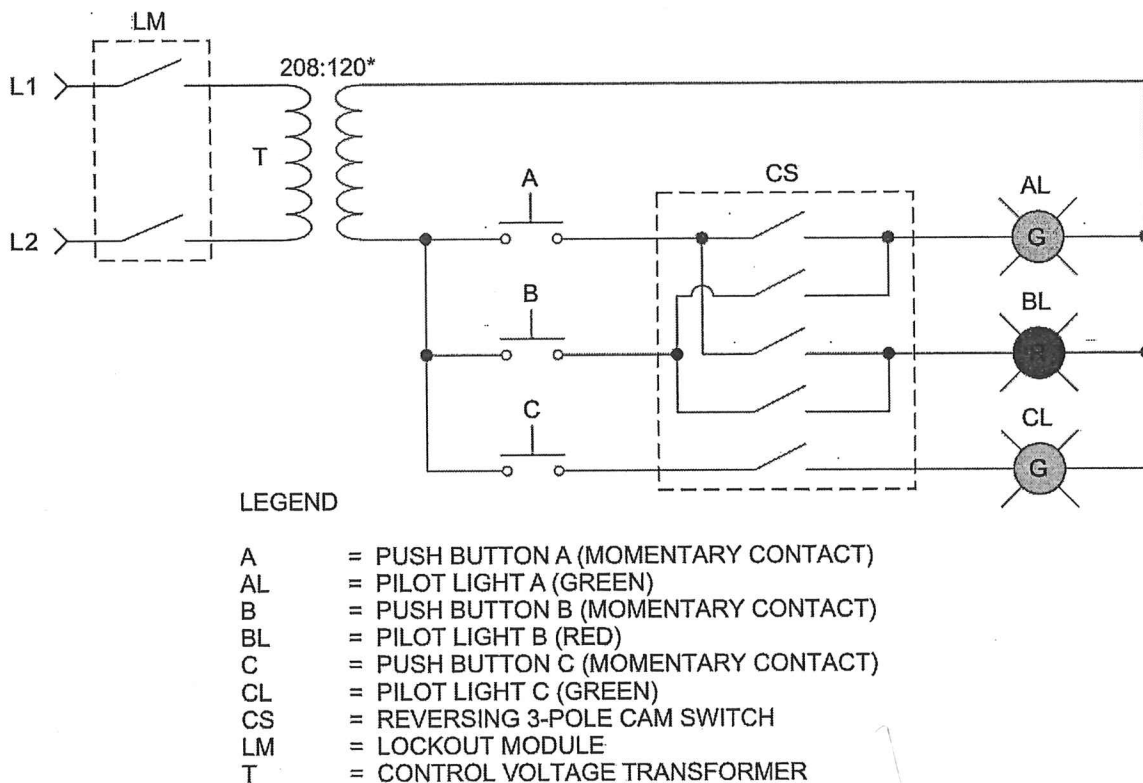

Figure 5
- ___ 1. Replace the MANUAL STARTER used in circuit #4 with the CAM SWITCH. Wire the lights using the CAM SWITCH and PUSH BUTTONS as shown in FIGURE 5.